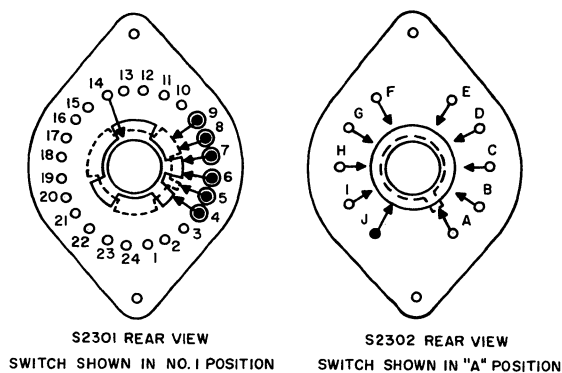

Figure 6-20. Remote Control Unit 614D-1, Switch Alignment
setting of the channel selectors. Figures 6-20 through 6-23 illustrate the switch wafers of the respective Remote Control Units in the A1 position (2.0 megacycles) as viewed from the front of the unit. Align the Remote Control Units according to the following procedure:
a. Set the Remote Control Unit in the A1 position (2.0 megacycles), and compare the switches to either figure 6-20, 6-21, 6-22, or 6-23, depending on the Remote Control Unit being aligned.
c. Rotate the channel selectors of the particular Remote Control Unit in use so that the switch wafers compare with either figure 6-20, 6-21, 6-22, or 6-23 (depending on the control being aligned).